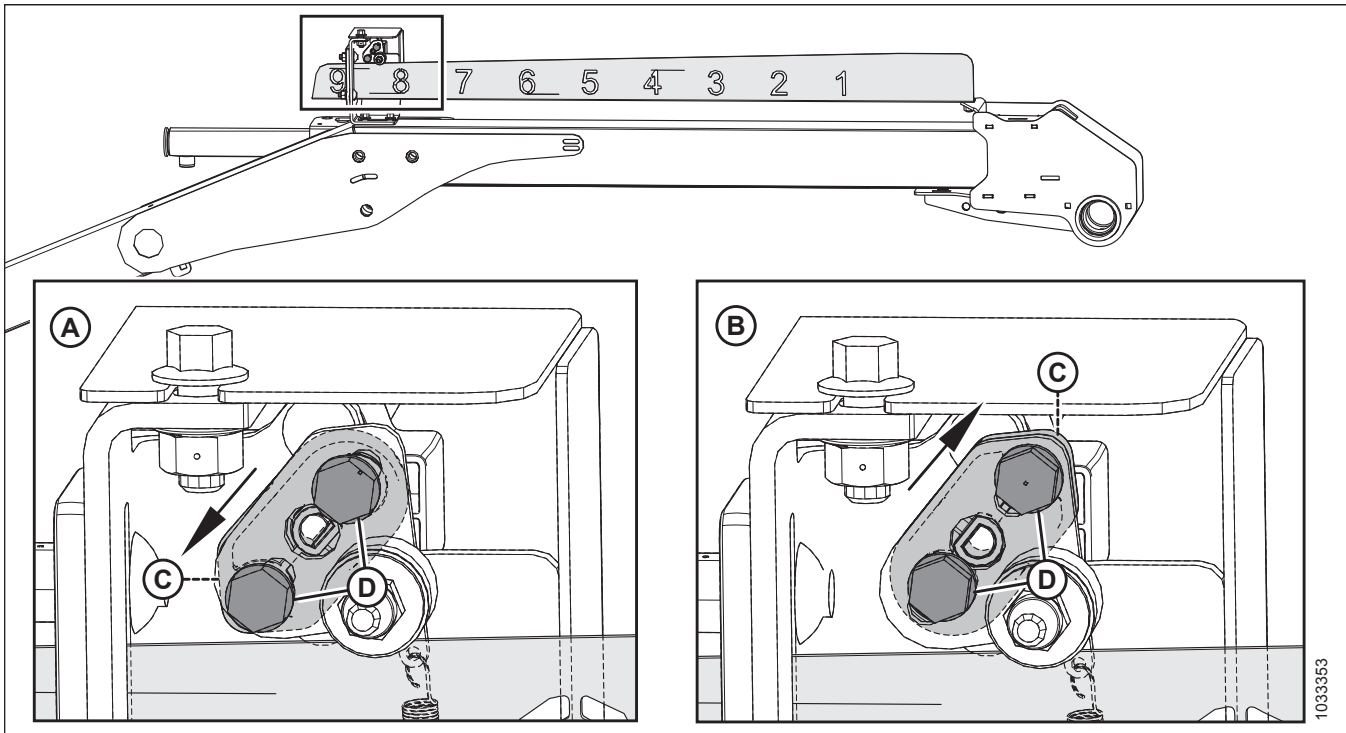

Figure 9.5: Sensor Arm Configurations
Note the orientation of sensor arm (C) and hardware (D). Ensure that the sensor arm is configured properly for your machine; refer to Figure 9.5, page 392.